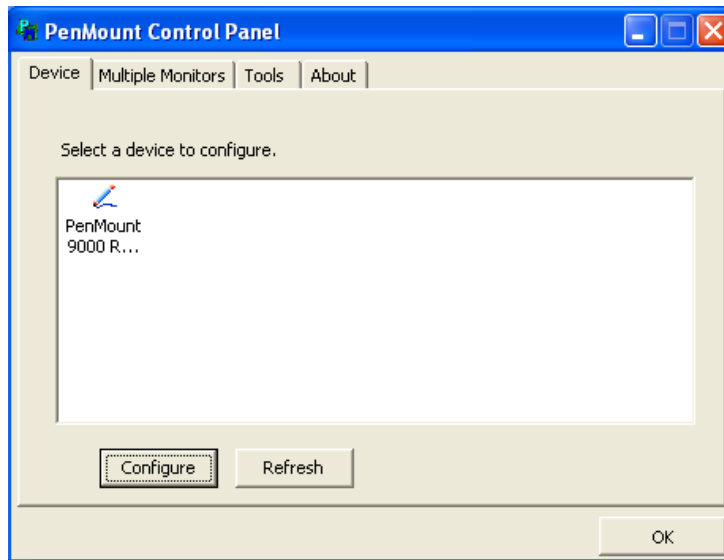

Figure 5-28: Configuration Screen
**Step 5:** The configuration screen in **Figure 5-28** appears.
**Step 6:** Double click the PenMount 9000 icon as shown in **Figure 5-28**.